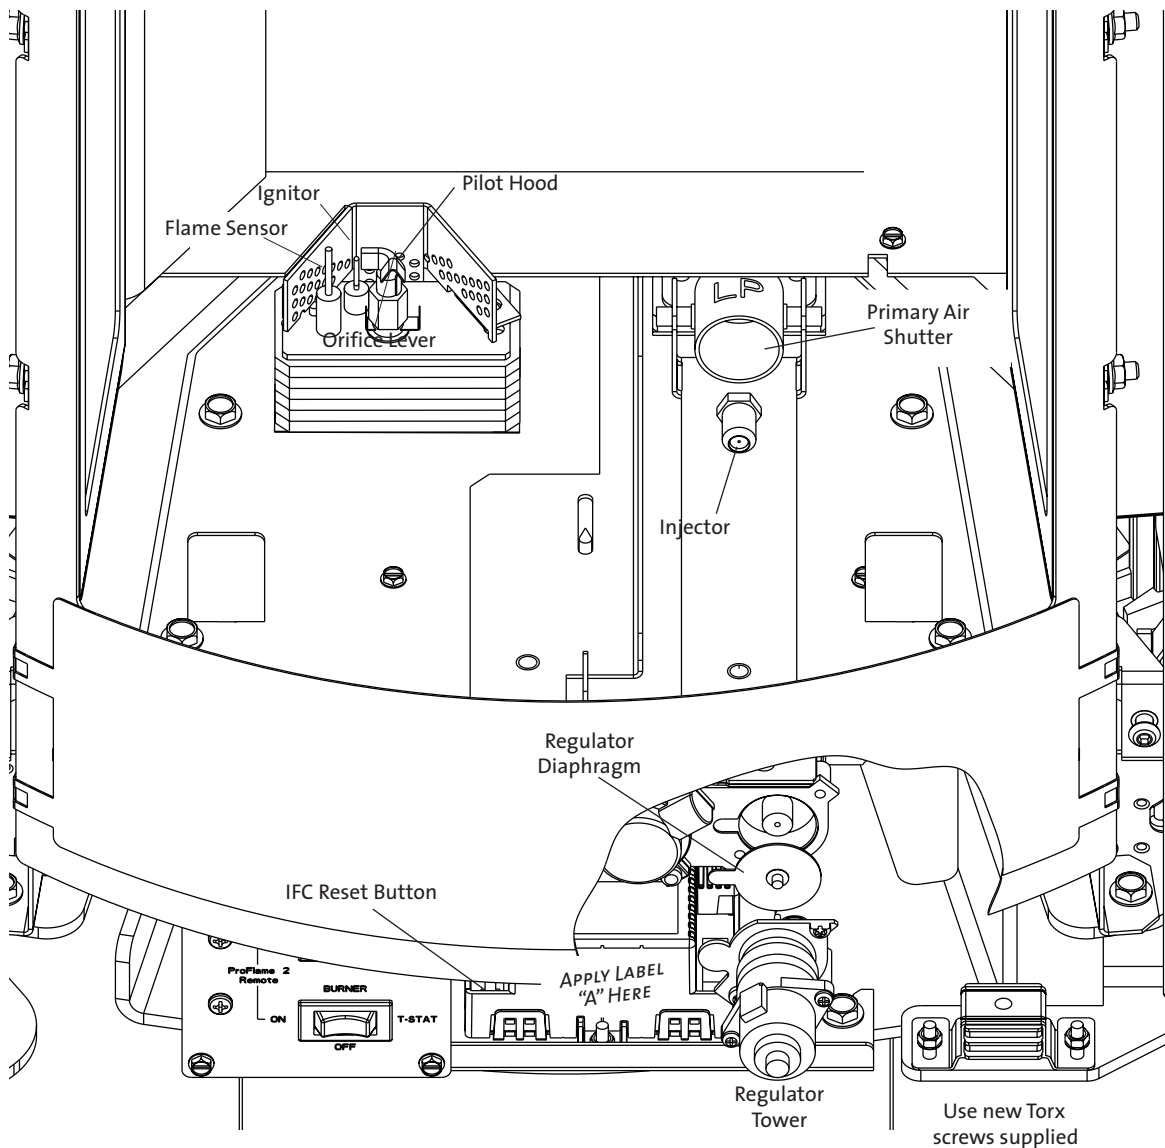

Figure 23. Fuel conversion components and assemblies
5. Locate the main burner injector. See fig. 23 on page 17. Slide the Air Shutter out of the way and use a 1/2" open end wrench or deep-well socket to remove the burner orifice from the brass orifice holder. Replace with the orifice supplied in the kit. Tighten securely.
7. Change the Dual-fuel Pilot Orifice. Use a 7/16" wrench to just loosen the pilot base enough to push the orifice lever to the left for LP, exposing the red indicator. Retighten the base. See fig. 23.
9. Replace the variable regulator. Using a Torx T-20 screwdriver, remove the two specialty screws from the regulator tower on the front of the valve. Note: To help identify which screws to remove, refer to the new regulator in the kit. See fig. 23.